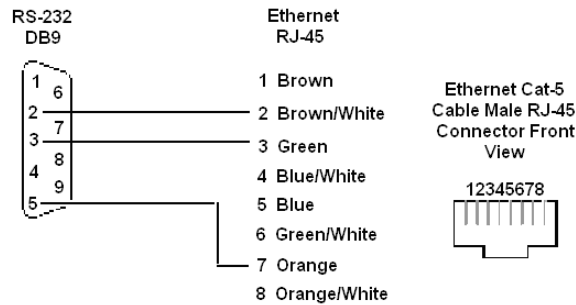

Figure 1.2 RS-232 Network Connection
- 4.2:** Connect the RJ-45 port on the front of the V7 drive to the controller serial port. Use a DB9 to RJ-45 adapter with a standard Ethernet CAT-5 patch cable or use Yaskawa cable UWR00468-2. **Do NOT connect this cable to an Ethernet port** on the controller, as damage to the controller and/or V7 drive may result. Refer to *Figure 1.2 – RS-232 Connections*.